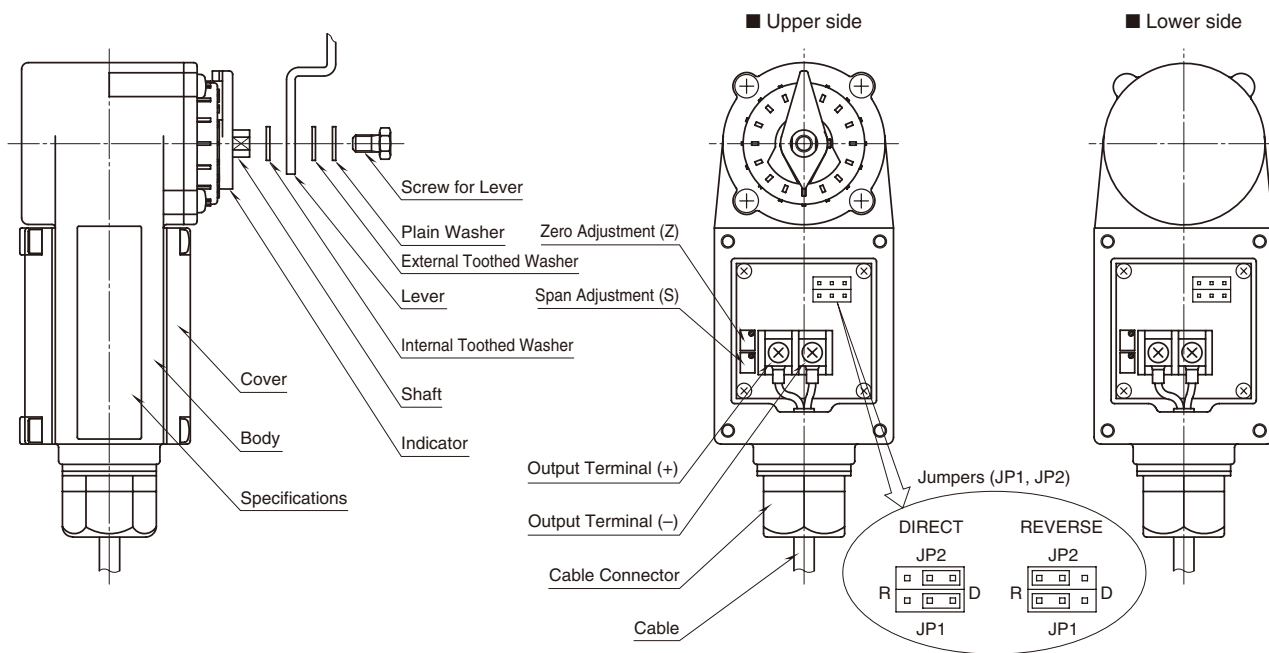

Figure 1
Connect the lever to the VOS2T-R unit with a screw included in the package, with a plain washer and a toothed washer between them as in Figure 1. At this stage, you do not have to fasten the screw tightly.
After that, open the VOS2T-R unit cover. Set the action direction* with jumpers (JP1, JP2 in Figure 1) and adjust Zero (Z) and Span (S) behind it.
1) If you need reverse action, change the setting now. Remove the cover and set the jumpers JP1 and JP2 to R position according to Figure 1. Factory set zero point may be slided by changing the action direction. Re-adjust according to the following.